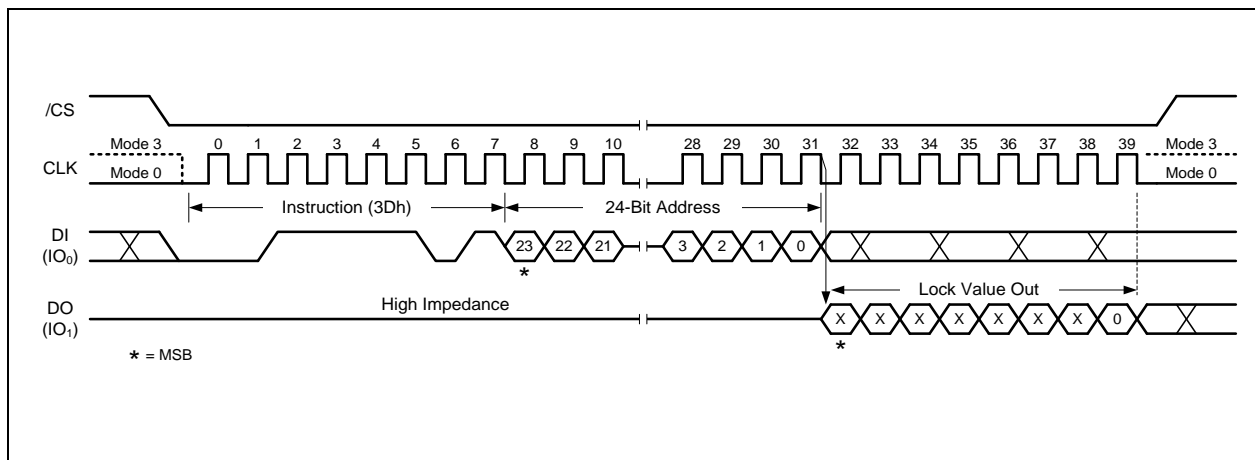

Figure 37. Read Block Lock Instruction
To read out the lock bit value of a specific block or sector as illustrated in Figure 3d, a Read Block/Sector Lock command must be issued by driving /CS low, shifting the instruction code “3Dh” into the Data Input (DI) pin on the rising edge of CLK, followed by a 24-bit address. The Block/Sector Lock bit value will be shifted out on the DO pin at the falling edge of CLK with most significant bit (MSB) first as shown in Figure 37. If the least significant bit (LSB) is 1, the corresponding block/sector is locked; if LSB=0, the corresponding block/sector is unlocked, Erase/Program operation can be performed.